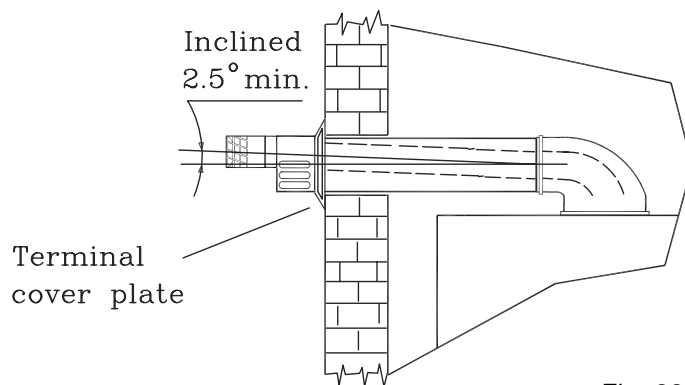

Fig. 22
**5.5.7** Fit terminal cover plate (fig. 22).